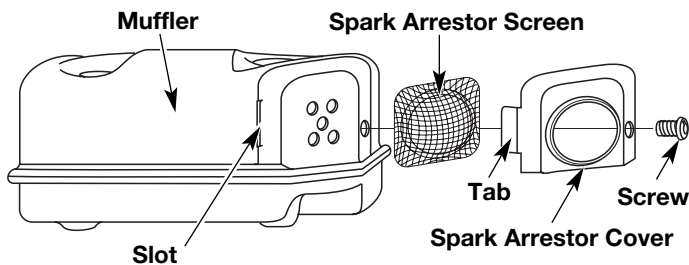

Fig. 29
2. With a flat blade screwdriver or Torx T-20 bit, remove the screw attaching the spark arrestor cover to the muffler (Fig. 29).